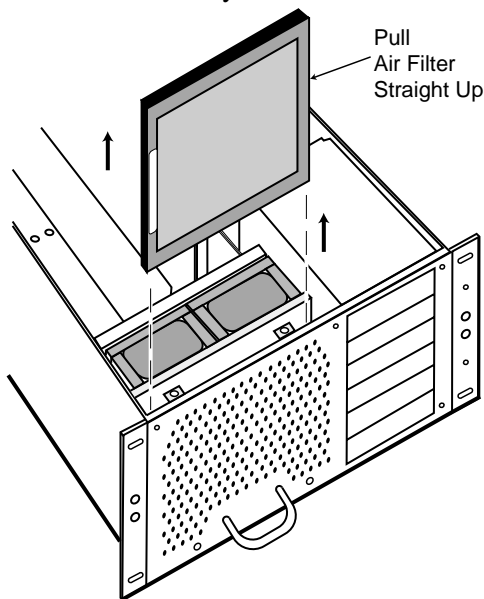

Figure 5-23. Air Filter Removal
- [] 4. Refer to **Figure 5-23**. Grab the edge of the air filter and lift it straight up and out.